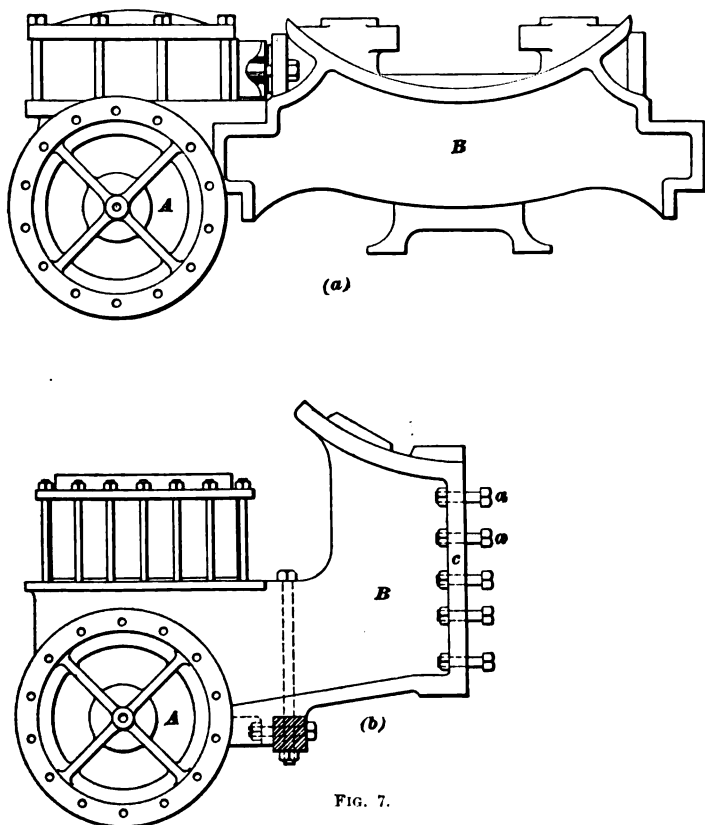

FIG. 7.
**11. Saddle Construction.**—In order that the steam cylinders may be fastened rigidly together and secured firmly to the boiler, they are attached to a casting called a bedplate, or *saddle*, which is placed between them. Two methods of construction are used for fastening the cylinders together by means of a **cylinder saddle**. One (now seldom used), illustrated in Fig. 7 (*a*), consists in casting the cylinders *A* separately from the saddle *B*, and then fastening the cylinder to the saddle by means of bolts *a*, *a* passing through the flanges *c*; the other, illustrated in view (*b*), consists in casting one cylinder and half of the saddle in one piece. The two halves of the saddle are then bolted together by means of the bolts *a* and the flanges *c*. The latter method is the one most frequently used. It requires but one pattern for an engine, as a cylinder with its half saddle can be used for either side, there being no rights and lefts. Method (*a*) requires two patterns—one for the saddle and the other for the cylinders; one pattern serving for the two latter.